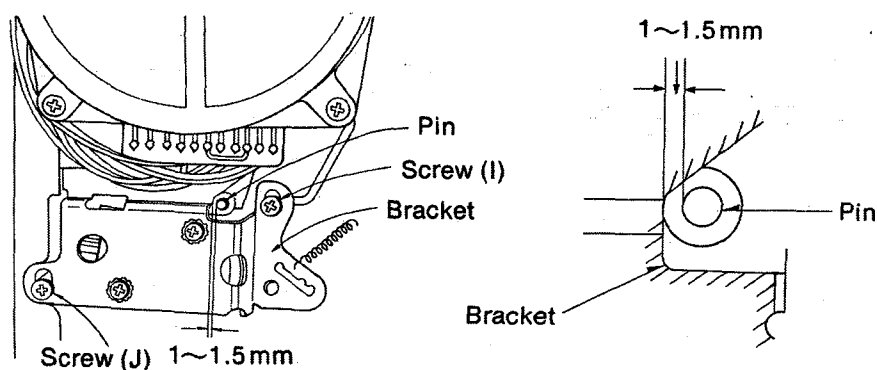
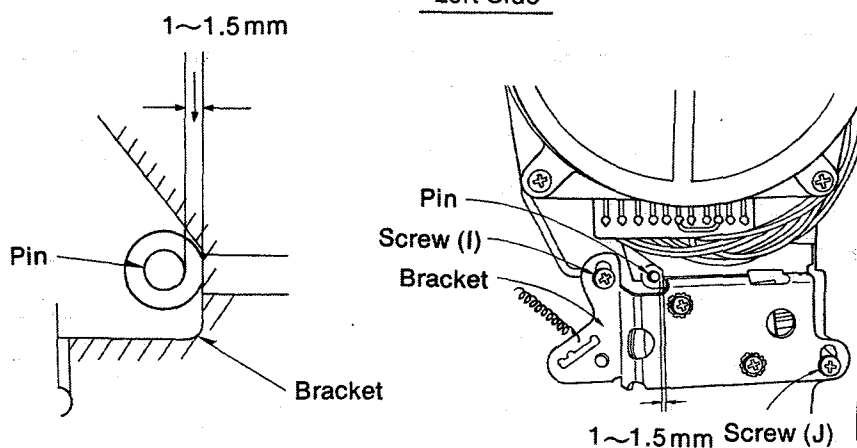

Fig. 12
Fig. 13
- (1) Loosen the plunger bracket screws (I) and (J).
- (2) As shown in figure 12 (for right side) and figure 13 (for left side), secure the bracket so that the space between the pin and bracket is 1—1.5 mm.